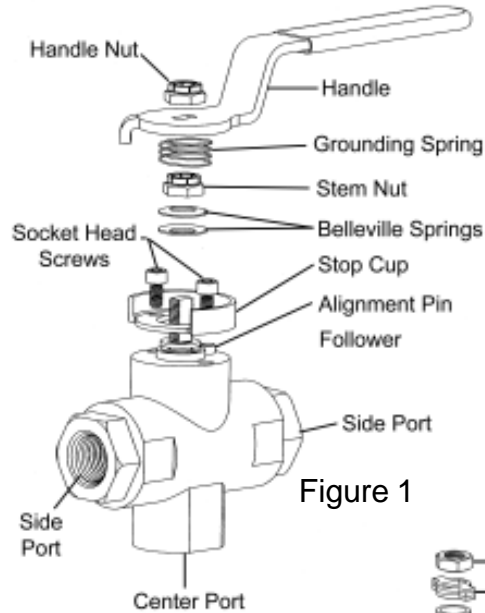

Figure 1
2. See Figure 1. Remove valve handle nut, handle, stem nut, grounding spring, Belleville springs, socket-head screws and stop cup, without disturbing valve stem position.